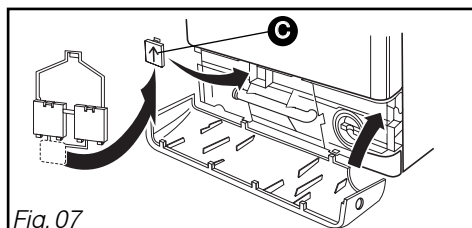

Fig. 07
- Plug the hole left by the brace using the **cover** provided **C** (Fig. 07).
- Reattach the baseboard (Fig. 07).